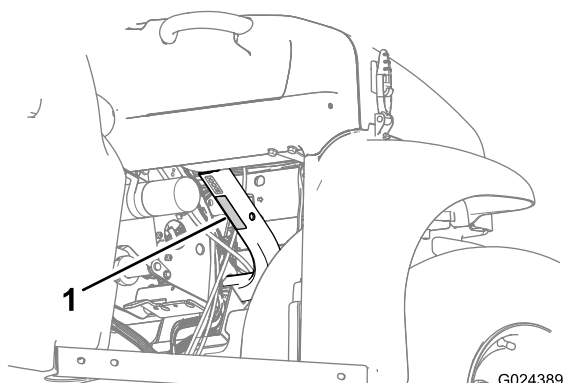

Figure 19
- Observe the weight capacity of the machine and limit the weight of the load that you carry in the cargo box as described in Specifications (page 16) and on the gross vehicle weight tag of the machine (Figure 19).